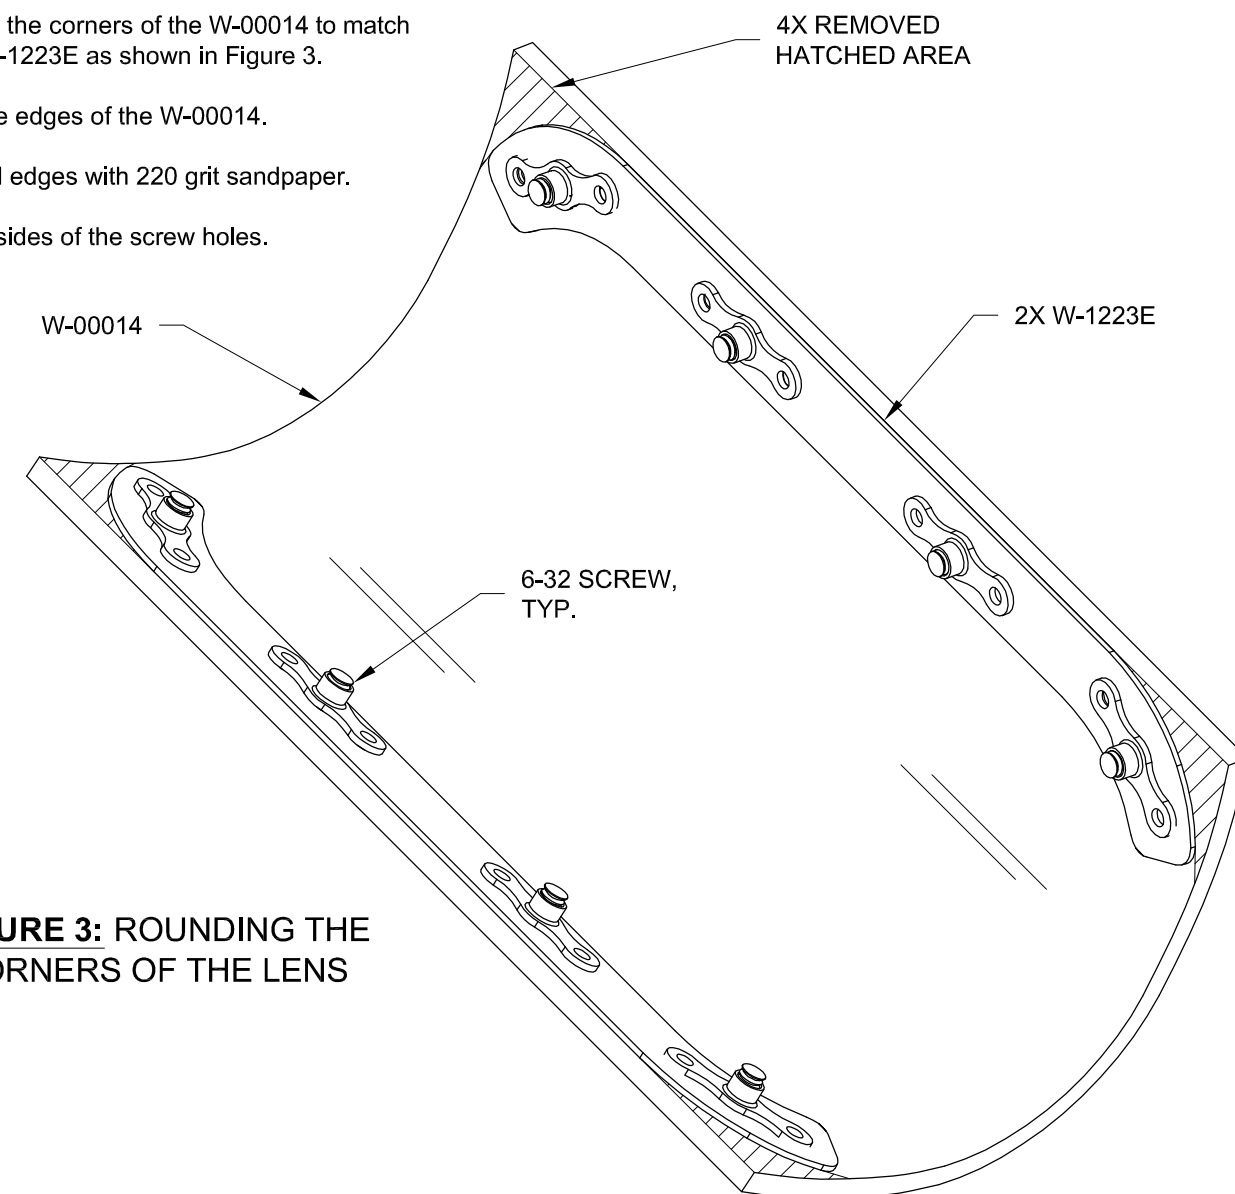

FIGURE 3: ROUNDING THE CORNERS OF THE LENS
Step 9: Temporarily position the W-1223E on the W-00014 as shown in Figure 3.
Step 10: Trim back the corners of the W-00014 to match the edges of the W-1223E as shown in Figure 3.